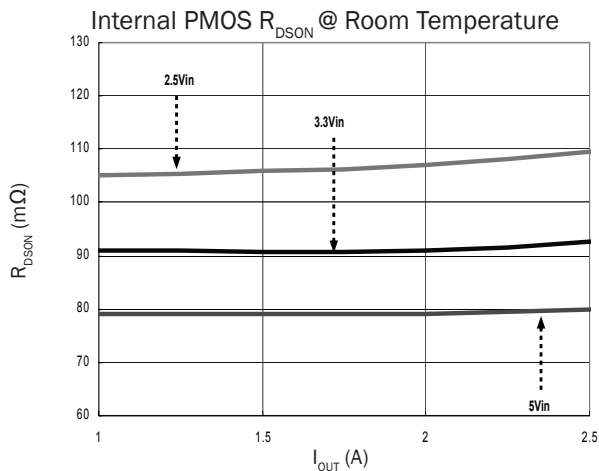

Figure 11. High-Side P-MOSFET
- $R_{DSH}$  : Internal high side P-MOSFET resistance. (refer to Figure 11).